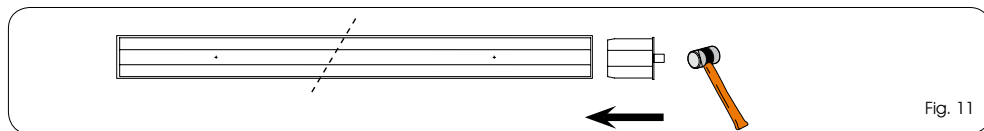

Fig. 11
The cap (Fig.1 ref.⑤) must be installed directly on the fixed roller (Fig.1 ref.③). See figure11